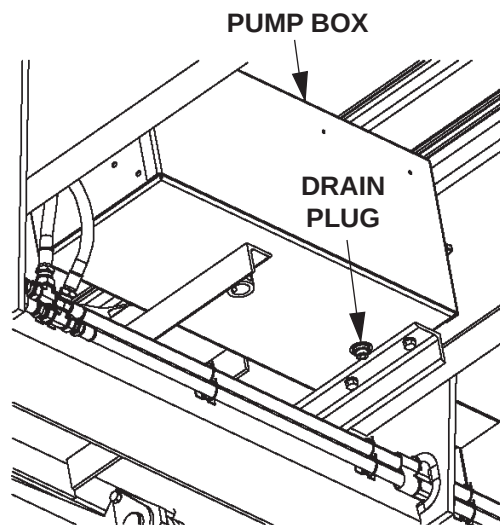

FIG. 12-1
2. Open and raise Platform to vehicle bed height. Remove the Drain Plug (**FIG. 12-1**). Drain hydraulic fluid.